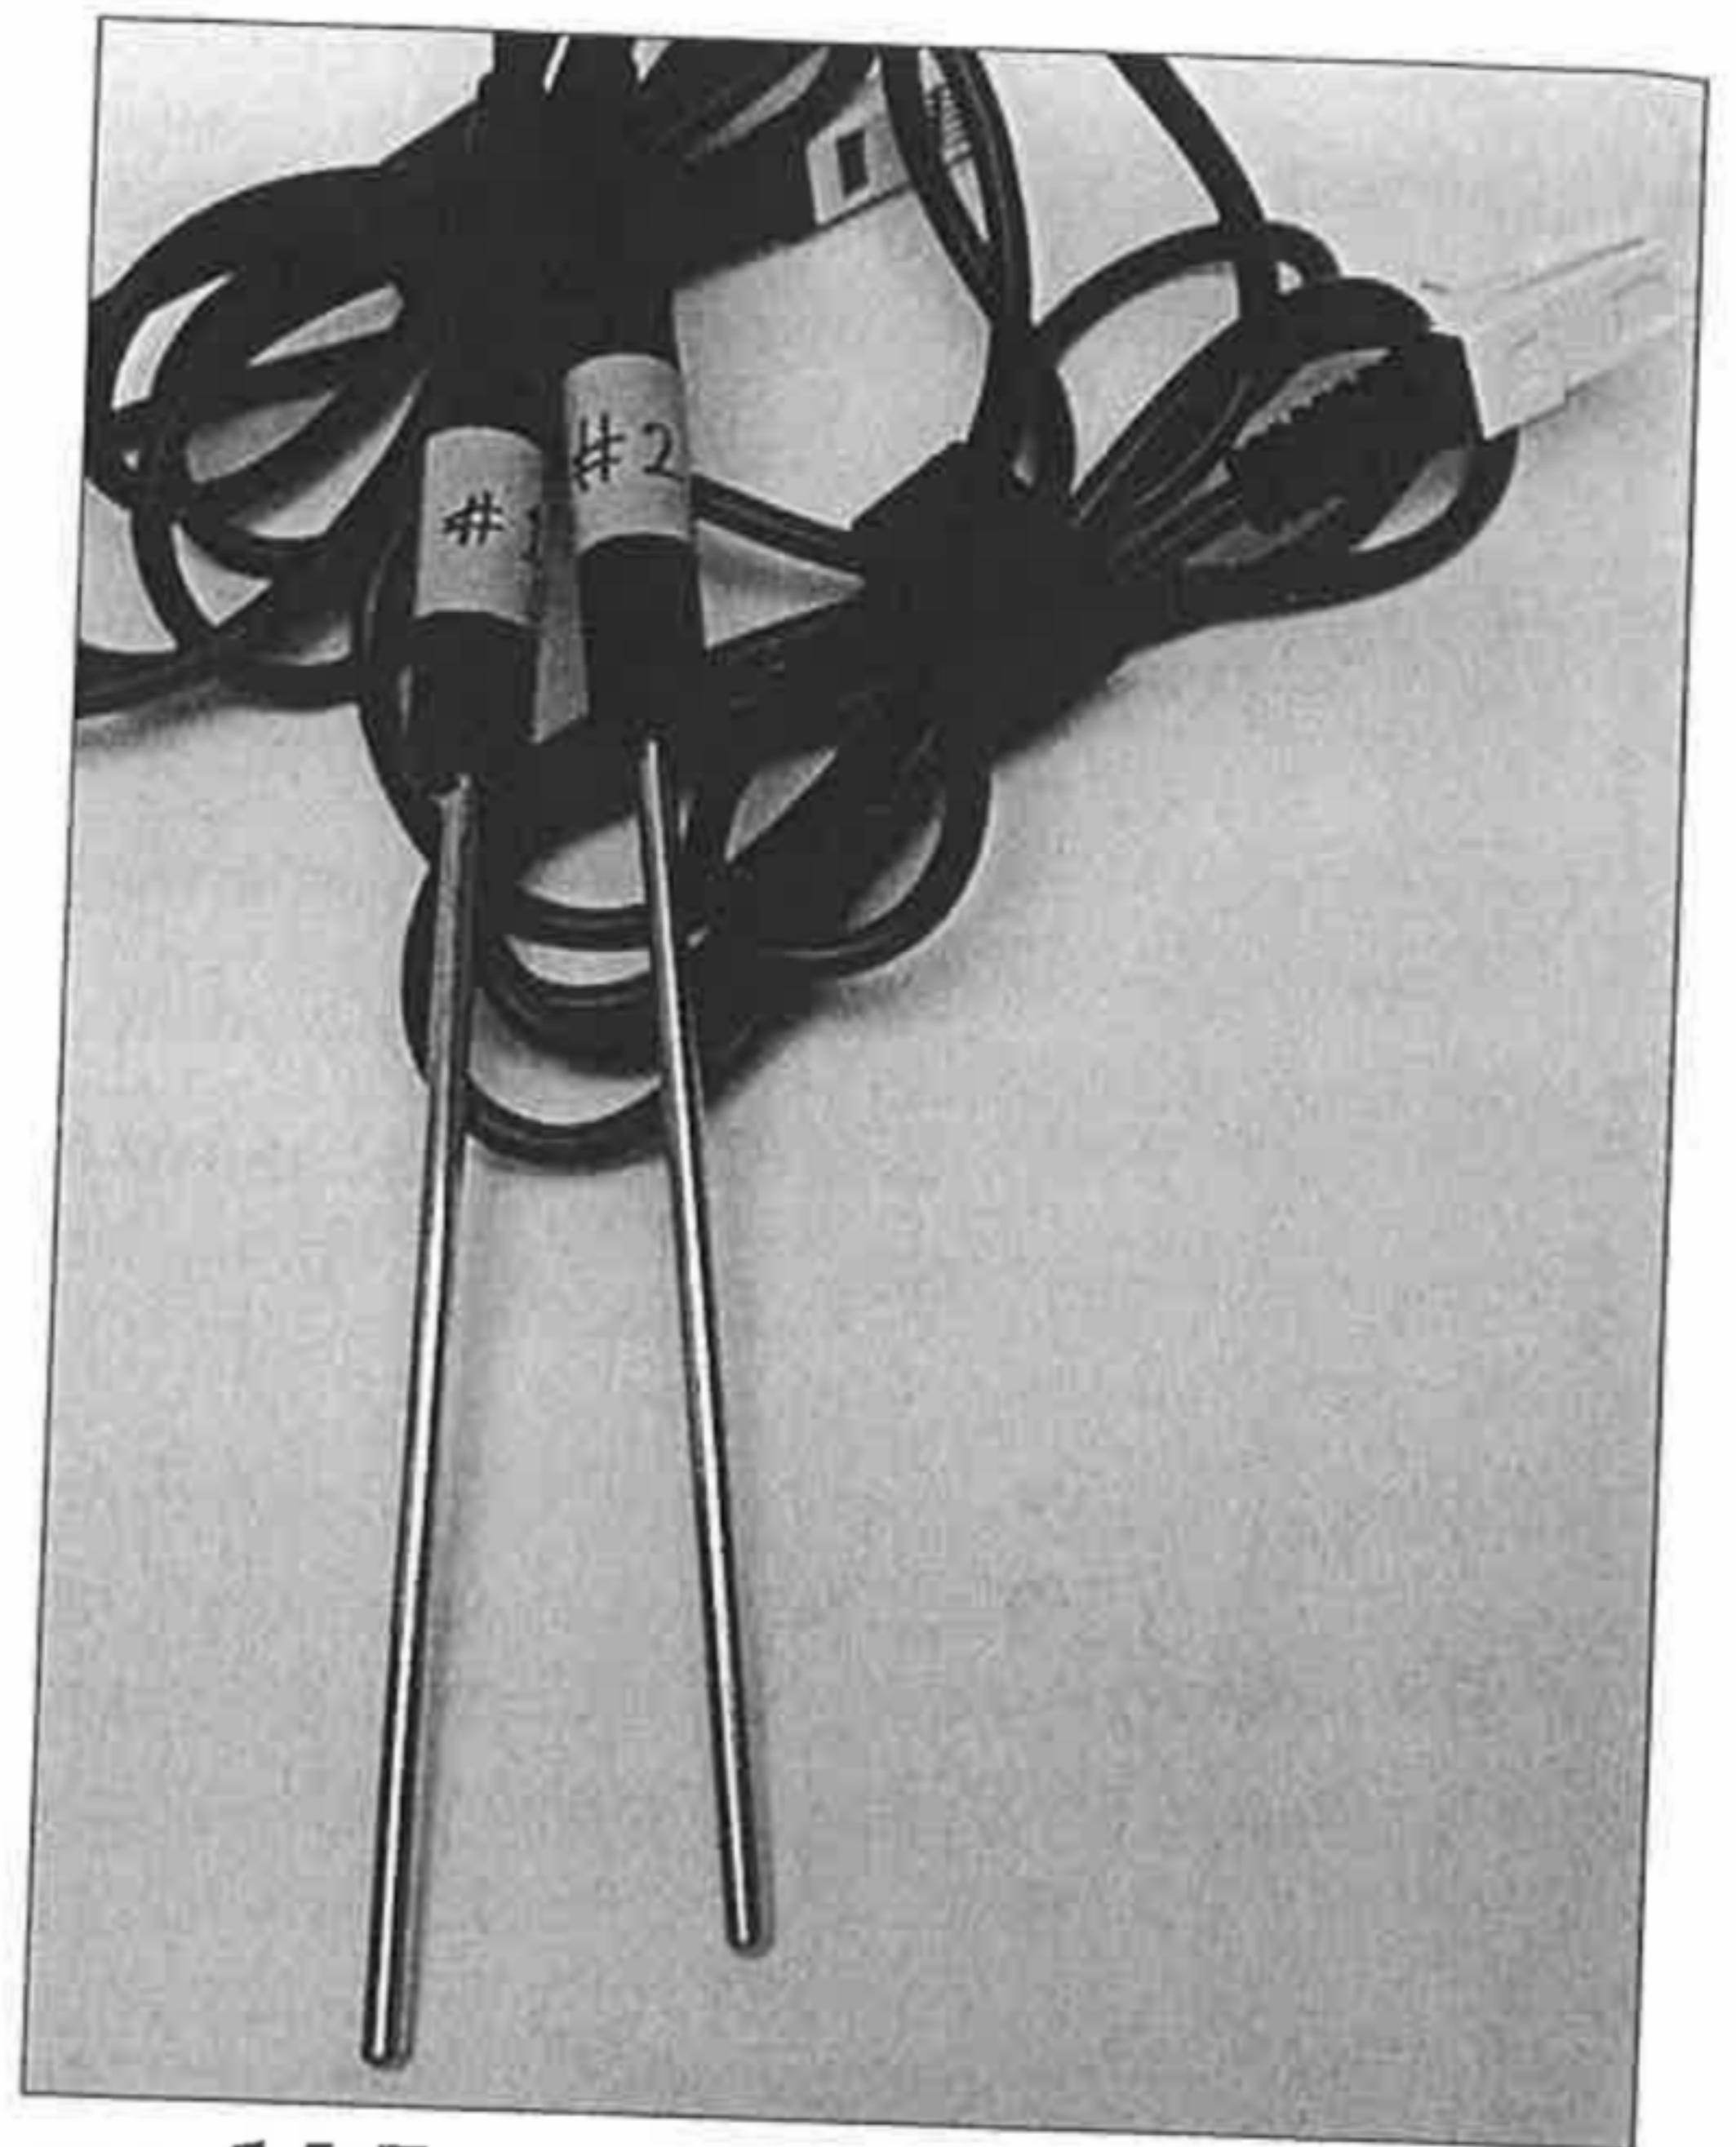

FIGURE 14.7 Label the temperature probes at the base so the label is visible during the experiment.
- 8 Label your temperature probes 1 and 2 (Fig. 14.7).